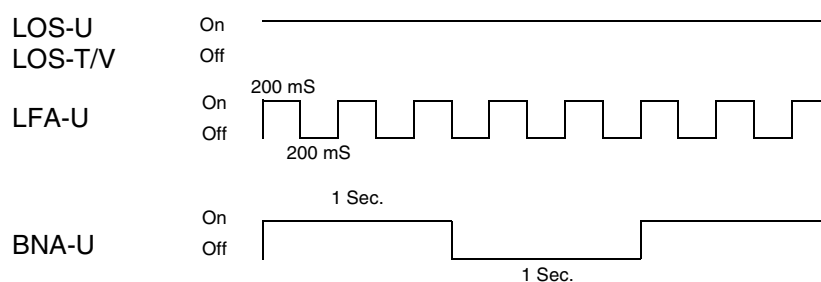

Fig. 2.70 Visual signalling LOS/LFA/BNA
1) Visual signalling according to Fig. 2.70
¹⁾ Visual signalling according to Fig. 2.70